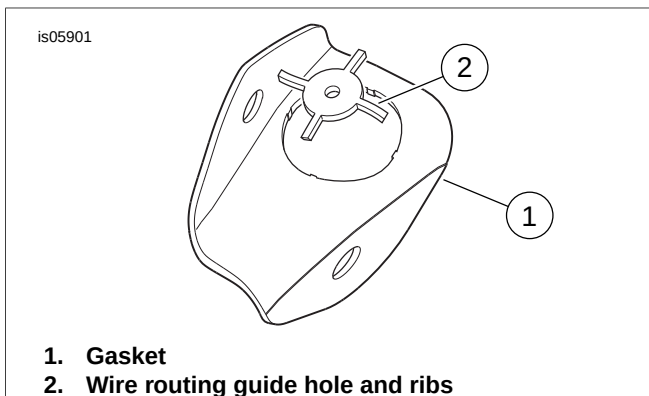

Figure 2. Remove Gasket Ribs and Guide Hole
10. See Figure 2. Remove the wire routing guide hole and four ribs (2) from the gasket (1).
11. **Models WITH radio:** Obtain the power harness (F) and audio cable (G) from the Road Tech Zumo GPS System Kit.